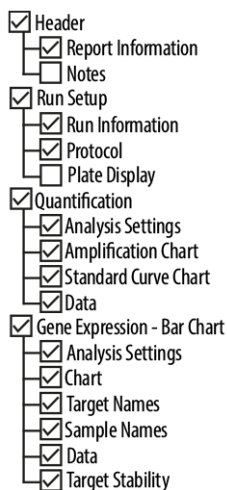

Figure 13: Report dialog
5. Ensure that at least the following content is selected for report generation in the upper left part of the Report dialog (see figure 13):